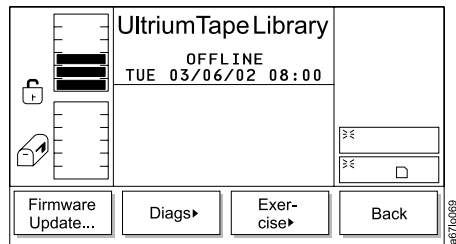

Figure 270. Library Submenu
3. Press the button below the **Library** softkey. The Library Submenu displays (see Figure 270).